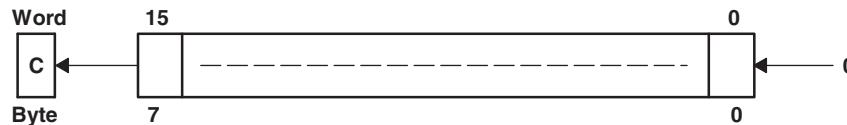

Figure 4-37. Destination Operand—Arithmetic Shift Left
Description	The destination operand is shifted left one position as shown in Figure 4-37 . The MSB is shifted into the carry bit (C) and the LSB is filled with 0. The RLA instruction acts as a signed multiplication by 2. An overflow occurs if dst $\geq 04000h$ and dst $< 0C000h$ before operation is performed; the result has changed sign.